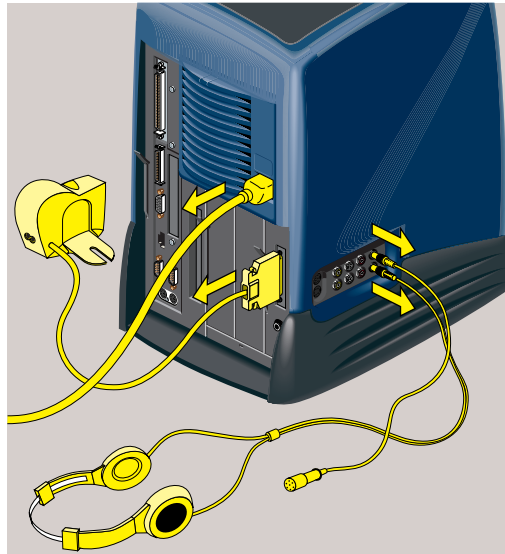

Figure 5-28 Removing the Cables From the Audio-Visual Module
2. Remove the power cable and any cables that are connected to the rear or side panel of the audio-visual module (Figure 5-28).